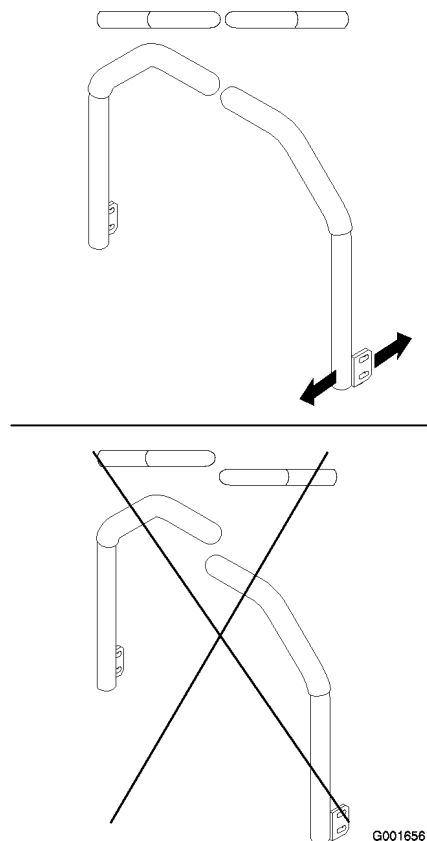

Figure 49
4. Align the levers front to rear position by bring the levers together to the neutral position and slide them until they are aligned, then tighten the bolts (Figure 49).